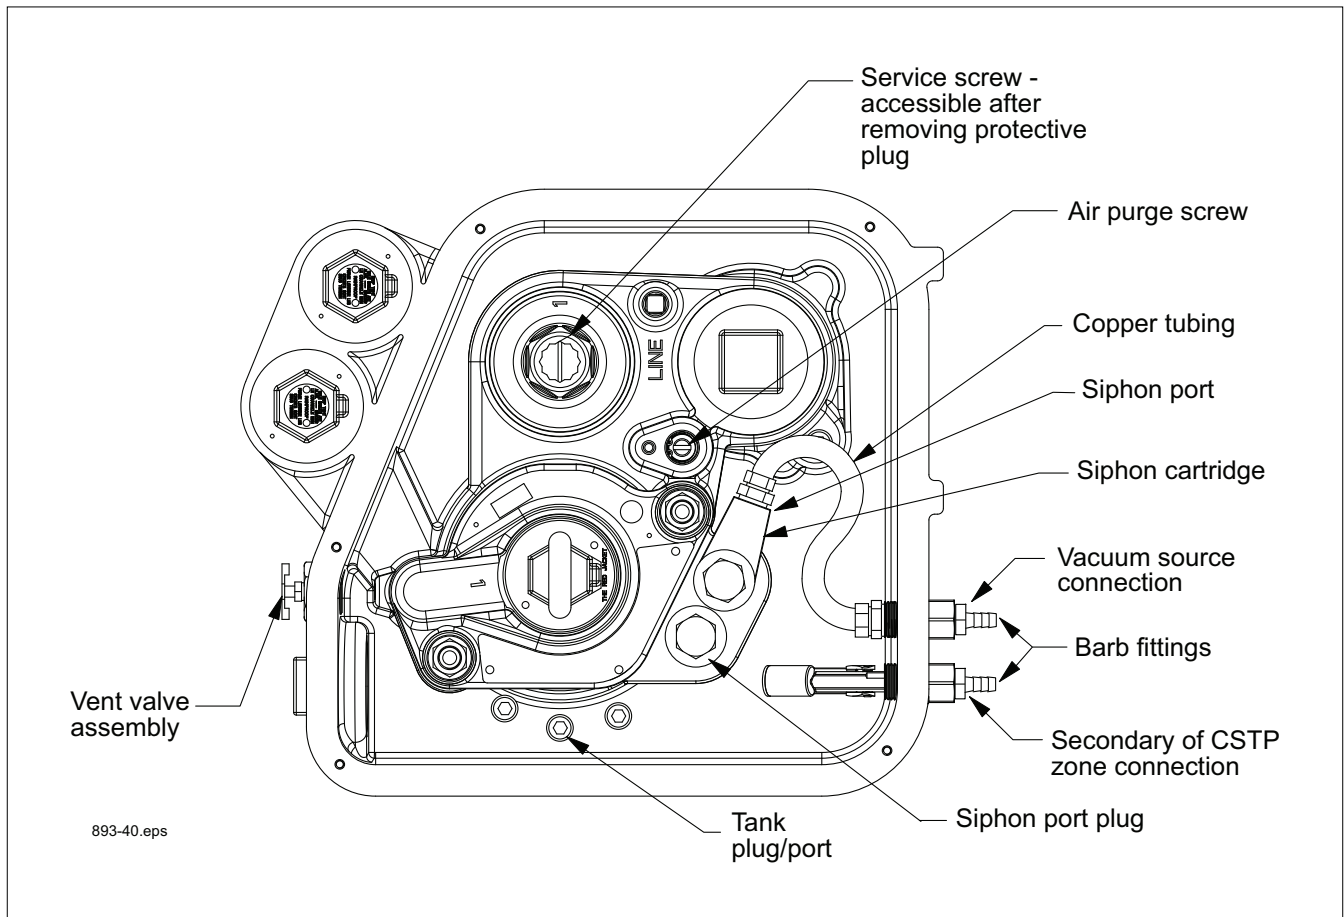

Figure 53. Siphon Ports
7. Remove and save the protective plug over the service screw and turn the service screw clockwise (see Figure 53). As the screw approaches its bottom position, you will hear the system depressurizing. Bottom the screw, then backoff 4 turns to lift the check valve allowing the fuel to drain out of the manifold's hydraulic cavities.
15. Install the bushing (apply an adequate amount of fresh, UL classified for petroleum, non-setting thread sealant to the threads) from Step 13 into the 1/2-inch port and torque to 30 ft-lbs (41 N•m) (see Figure 53).
20. Identify and install the sensor package (see vacuum sensors manual 577013-836) and connect it to the vacuum source and the secondary of CSTP zone (see Figure 53).